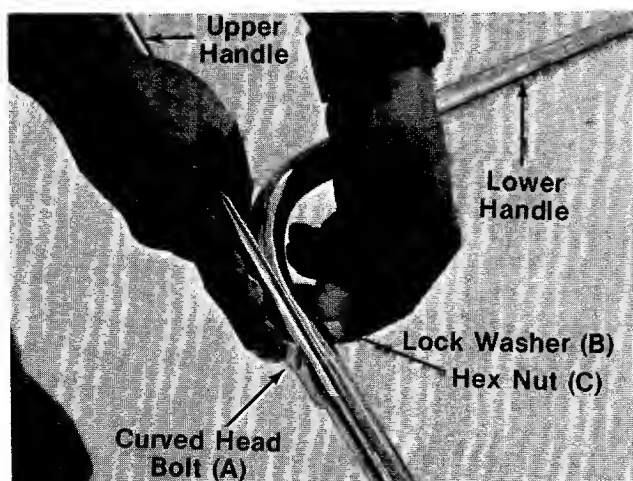
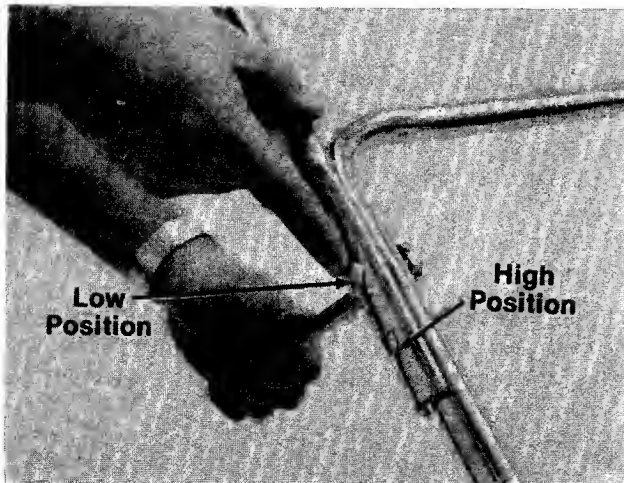

FIGURE 3.
FIGURE 8.
- ← 4. There are two height positions for the handle. Place upper handle in position over lower handle, selecting hole for either high or low position. See figure 8. Secure with two curved head bolts (A), lock washer (B) and hex nuts (C) as shown in figure 3. Tighten securely using a 1/2" wrench.
The upper handle can be adjusted to a high or low position. The adjustment is made by removing the hex nuts, lock washers and curved head bolts and reassembling in the other position. A $\frac{1}{2}$ " wrench is required. See figure 8.